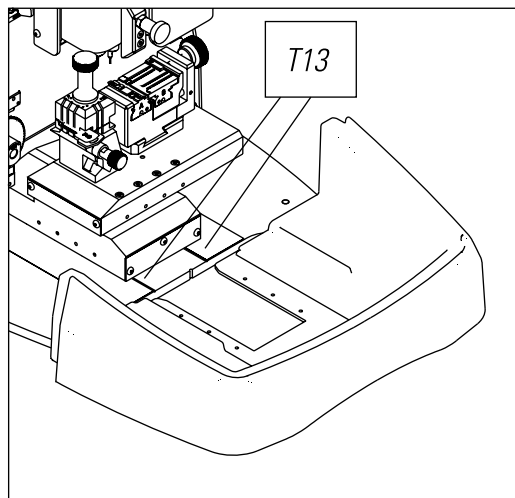

FIG. 30
- 3) Re-introduce the tray taking it to the bottom following the two lines (T13) marked in black on the chassis (Fig. 30)